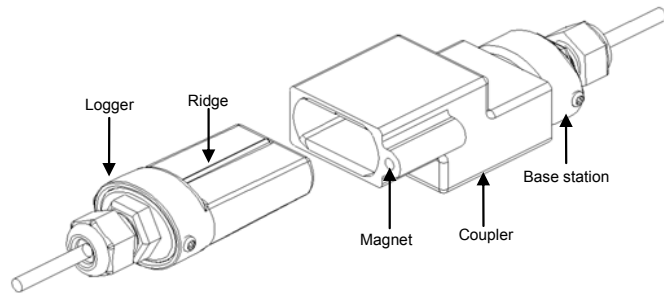

Figure 3: Inserting Logger into Base Station
2. Insert the logger and the base station into the coupler, as shown in Figure 3. Make sure that the logger is inserted in the end of the coupler that has the magnet, and that the ridges on the base station and logger are aligned with the grooves in the coupler.